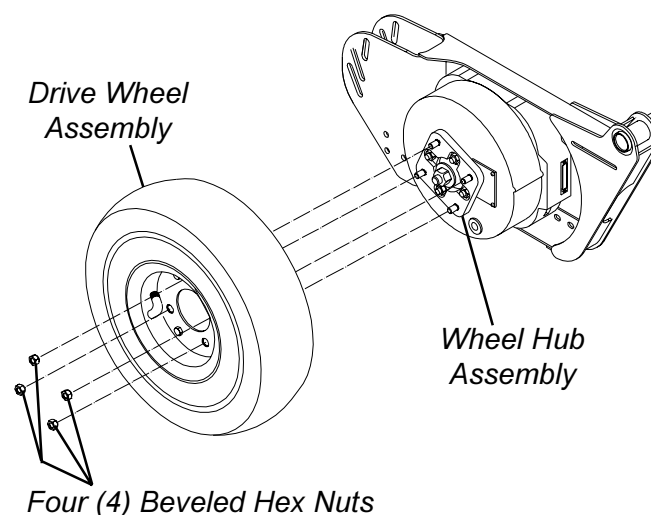

FIGURE 1 - REMOVING/INSTALLING DRIVE WHEELS
**REMOVING/INSTALLING DRIVE WHEEL HUB (FIGURE 1)**